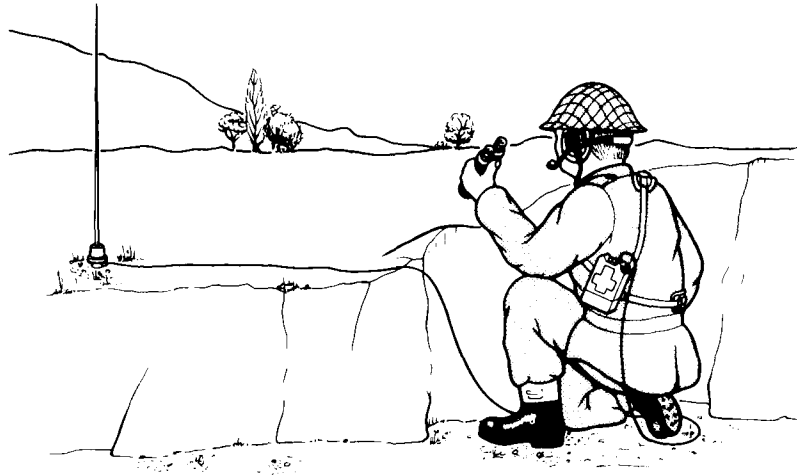

Fig.16 UK/PRC-350 used with Ground-Spike Antenna
2. The antenna can be placed in the open but still be relatively inconspicuous, whilst the radio and operator can occupy a sheltered position (Fig. 16). This facility has advantages over the 'audio extension' facility in so far that switching and limited frequency control of the radio may be carried out without the User leaving protective shelter.